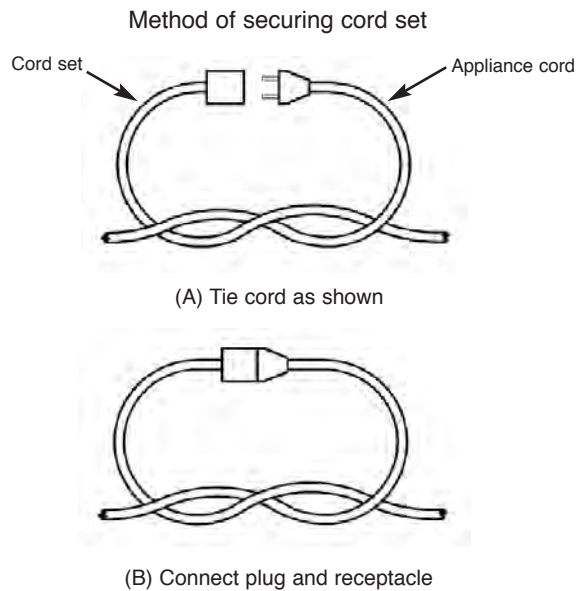

Figure 1
- i) Make a knot as shown in Figure 1, or